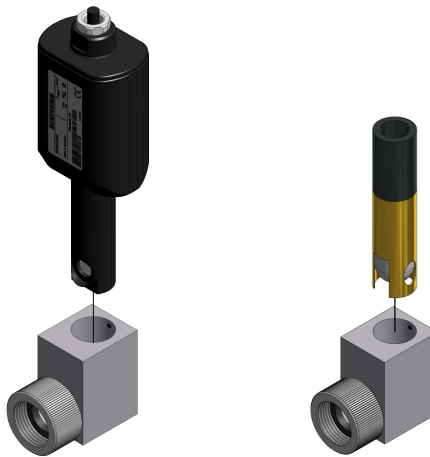

Figure 2: Flame Scanner Installation
3. Slide flame scanner QRI2B2.B180B or QRA2... into the bore of AGG90.U until it bottoms out as shown in Figure 2. Rotate the flame scanner so that the scanner eye is looking directly out of the threaded hole in AGG90.U. Using a 1/16" hex key, gently fasten the set screws in the back of AGG90.U into the housing of the flame scanner. Maximum torque for these set screws is 5 in-lb.